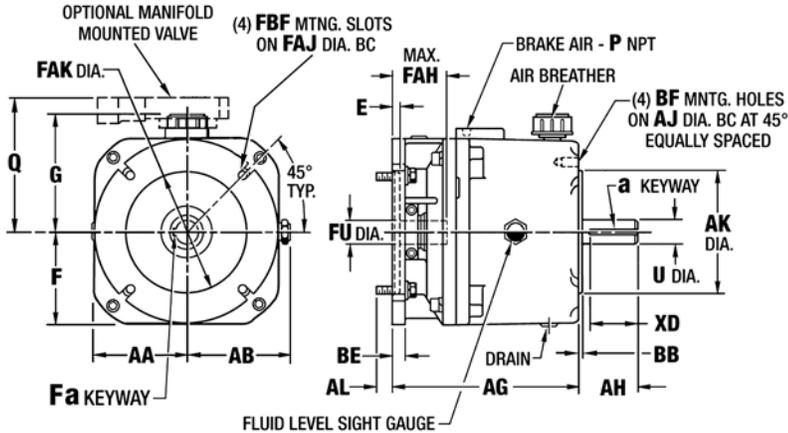

Figure 2.1 - Coupler Brake Dimensions
1. All other dimensions are the same as shown in Figures 2.1 & 2.2.